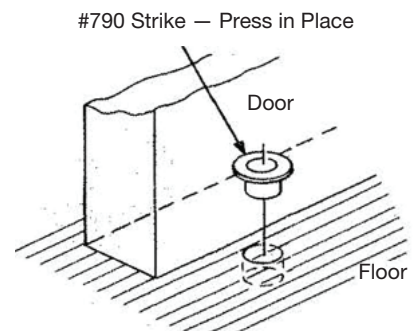

Figure 20
3. Secure bottom strike #790 into floor (See Figure 20) and press into place.